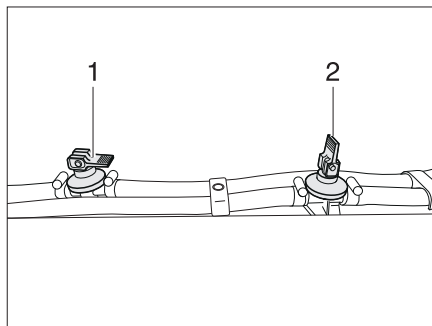

Fig. 346 Drain cock
- Close all drain cocks. Position the rocking lever (Fig. 346,1) horizontally.